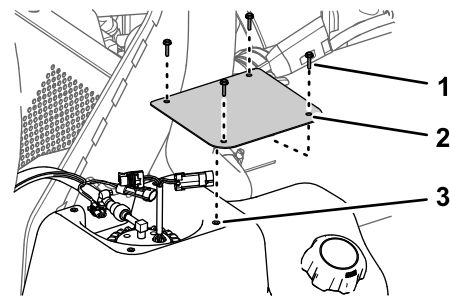

Figure 90
1. Assemble the cover to the tank (Figure 90) with the 4 screws (#10 x 3/4 inch) that you removed in step 2 of Removing the Fuel Pump Cover (page 62).